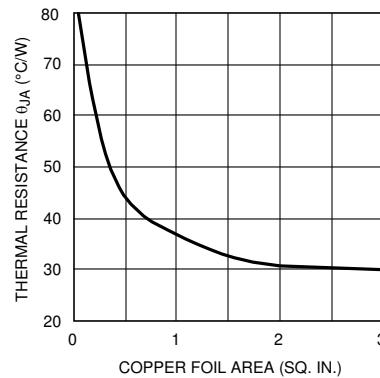

図 6-4. Thermal Resistance (Typical) for 7-L DDPAK Package Mounted on 1 oz. (0.036 mm) PC Board Foil
5. Choose a copper area that will ensure the specified $T_{J(MAX)}$ for the calculated θ_{JA} . θ_{JA} as a function of copper area in square inches is shown in 图 6-4.
4. Finally, using this value for θ_{JA} choose the minimum value of copper area from 图 6-4.
Examining 図 6-4, we see that we cannot attain this low of a thermal resistance for one layer of 1 oz copper. It will be necessary to derate the part by decreasing either the ambient temperature or the power dissipation. Other solutions are to use two layers of 1 oz foil, or use 2 oz copper (see 表 6-1), or to provide forced air flow. One should allow about an extra 15% heat sinking capability for safety margin.